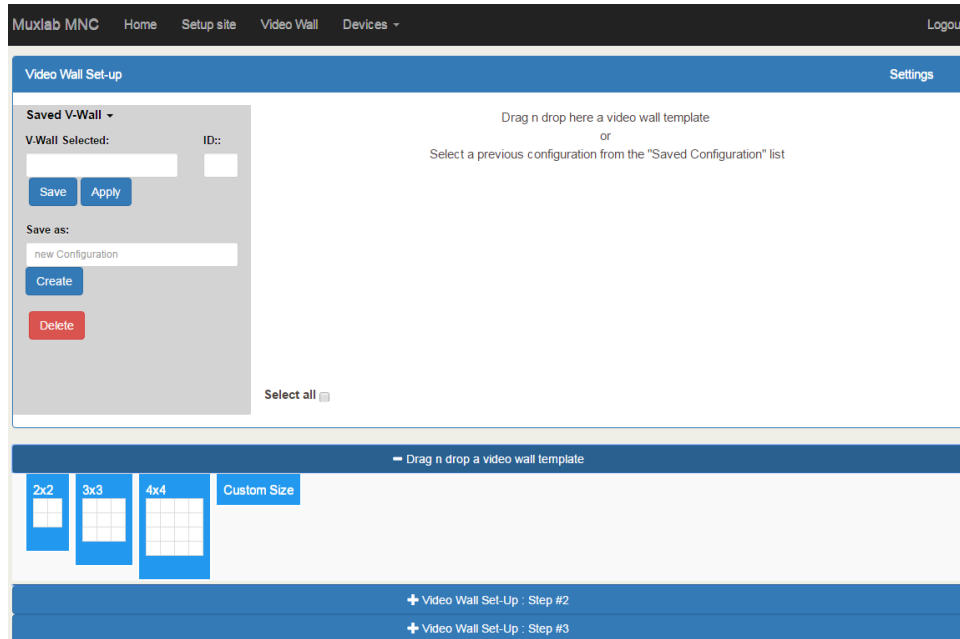

Figure 253: Video Wall Tab
1. The user clicks on **+Video Wall Set-Up: Step #1**, which expands to provide the user with video wall size options (Figure 253).